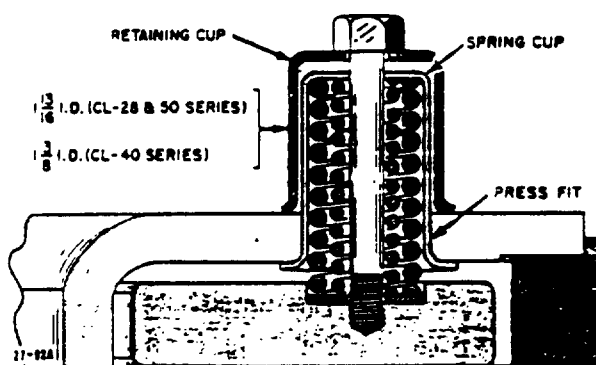

Figure 4-1. Retaining Cups
2. Use three spring retention tools (J26450 for CL-28, 40 and 50 series, J26451 for CL-47 series) or retaining cups as shown in Figure 4-1, when removing a clutch assembly from the flywheel.